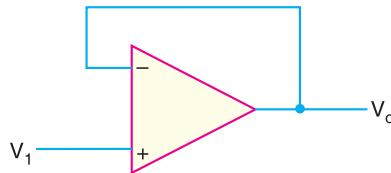

Fig. 25.107
14. What output voltage results in the circuit of Fig. 25.107 for $V_1 = +0.5 \text{ V}$? [V_o = 0.5 \text{ V}]